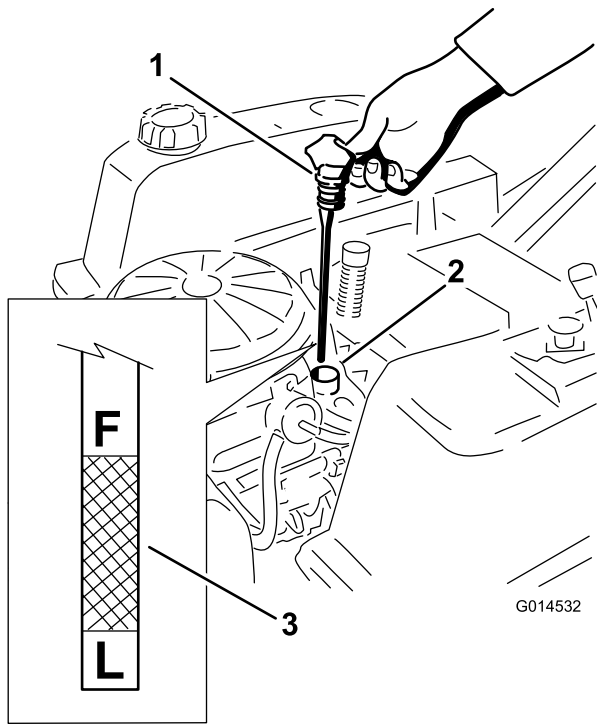
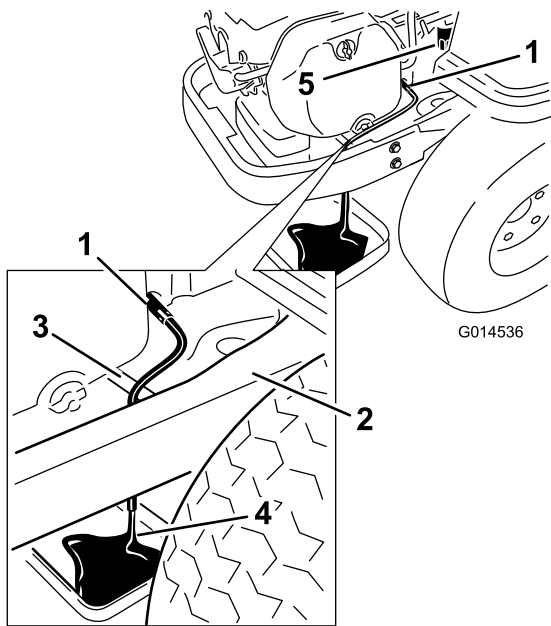

Figure 28
Figure 30
- Remove the dipstick and check the oil level. (Figure 28).
- Place a pan underneath machine directly below the drain hose as shown in Figure 30.
7. Turn the drain valve 1/4 counter clockwise to open and allow the oil to drain (Figure 30). Remove the oil fill cap/dipstick (Figure 28).
9. Remove the old filter and wipe off the mounting pad (Figure 30).
10. When oil has drained completely, close the oil drain valve. Remove the oil drain hose and wipe up any excess oil on the frame (Figure 30).
14. Slowly pour approximately 80% of the specified oil into the filler tube (Figure 28).
15. Install the oil fill cap/dipstick and push firmly into place (Figure 28).
16. Check the oil level (Figure 28); refer to Checking the Oil Level.
18. Install the oil fill cap/dipstick and push firmly into place (Figure 28).